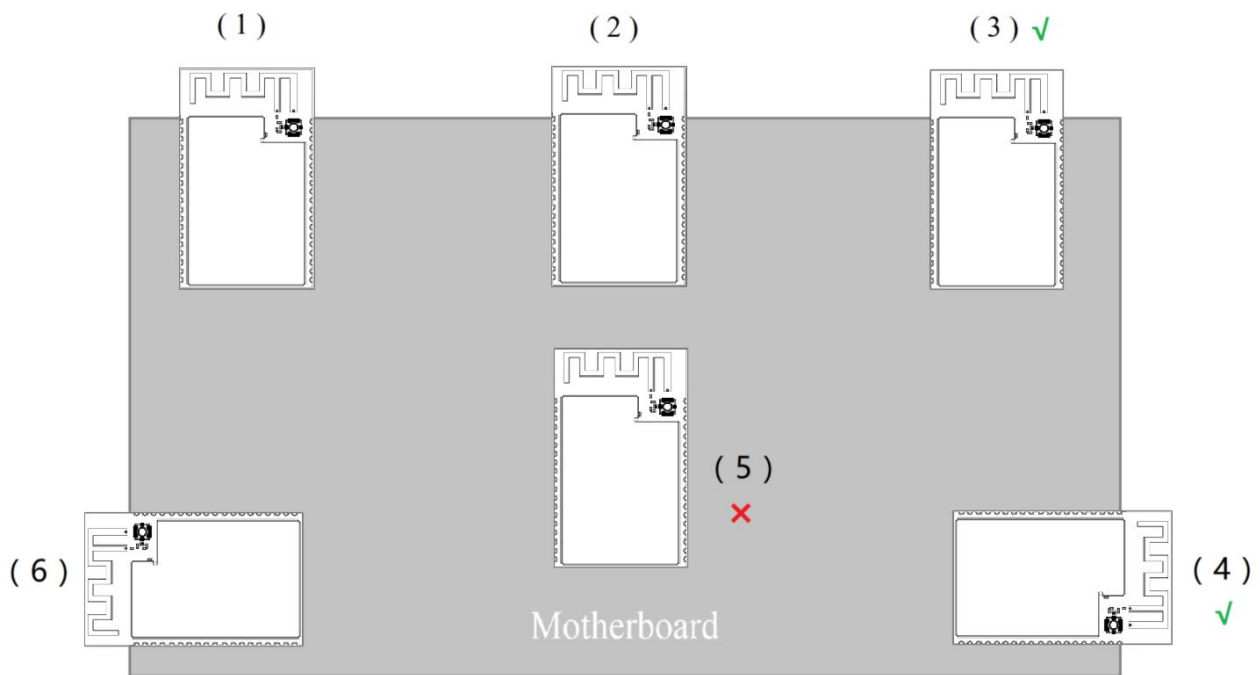

Figure 5.1 Schematic diagram of the module with on-board antenna on the bottom plate.
When designing a module with an onboard antenna on the board, attention should be paid to the layout of the module on the baseboard to minimize the impact of the baseboard on the antenna performance of the module PCB as much as possible. It is recommended to place the module as close to the edge of the baseboard as possible. If conditions allow, the PCB antenna area should preferably extend beyond the baseboard frame, and the feed point of the antenna should be closest to the edge. If there is a baseboard below the antenna area, it must be cut off to minimize the impact of the baseboard. Ensure that interfering signal traces (such as USB, LCD, camera, power inductors, and crystals) and vias are at least 10 mm away from the antenna; if there are metal-shielded components with a high height near the module antenna area, maintain a distance of at least 10 mm from the antenna area; when it comes to the design of the whole device, the device's casing (especially the material around the antenna) should be made of non-metallic materials, and there should be at least 3 mm spacing between the antenna and the casing, while also considering the impact of the casing on the antenna. In Figure 5.1, it is strongly recommended to position the module on the baseboard at locations (3) and (4), locations (1), (2), and (6) are not recommended, and position (5) is prohibited. If there is no clearance in the baseboard in the module antenna area, it will greatly attenuate the antenna's radiation capability.